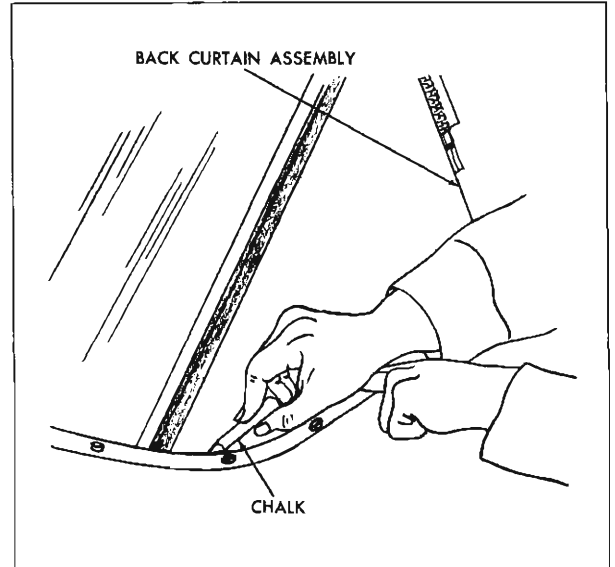

Fig. 21-46 Marking Back Curtain
19. Where required, place reference chalk mark on outer surface of back curtain along pinchweld finishing molding. Re-adjust back curtain assembly as required. (Fig. 21-46).